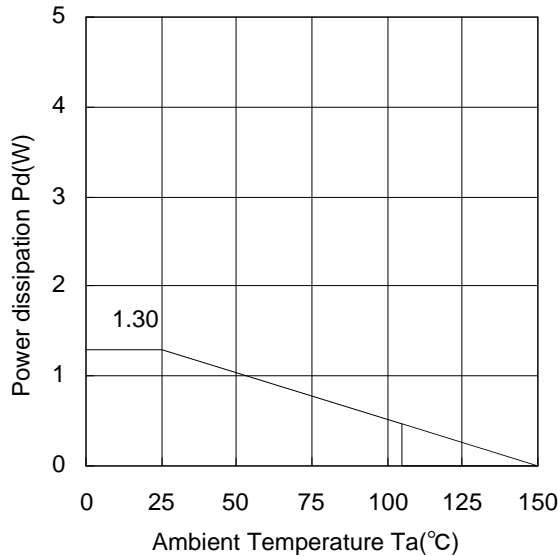
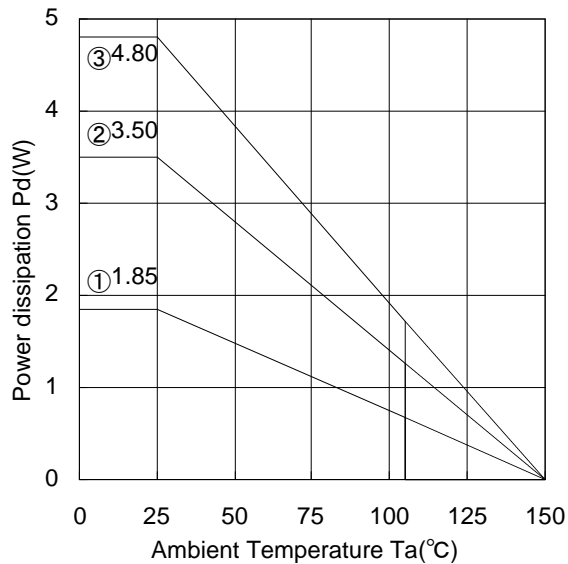
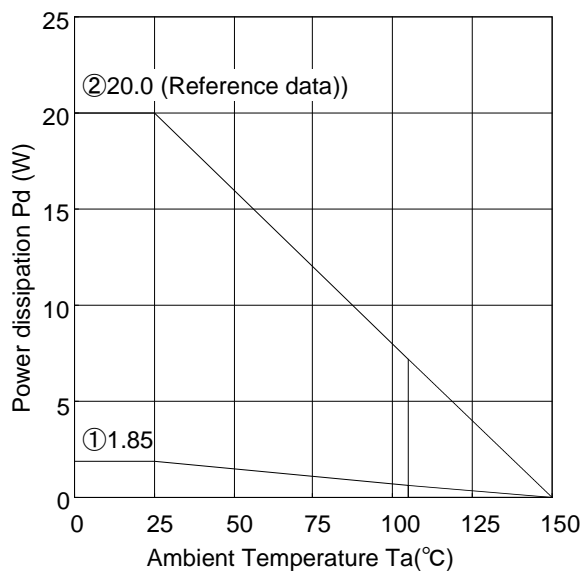

Figure 19.
Figure 20.
Figure 21.
When operating at temperature more than $T_a=25^{\circ}\text{C}$, please refer to the power dissipation characteristic curve shown in Figure 19 to Figure 21.
Figure 19 to Figure 21 show the acceptable power dissipation characteristic curves of TO252-5 package and TO220CP-V5 package. Even when the ambient temperature (T_a) is at normal temperature (25°C), the chip junction temperature (T_j) may be quite high so please operate the IC at temperatures less than the acceptable power dissipation.
The calculation method for power consumption $P_c(\text{W})$ is as follows : (Figure 20③ and Figure 21)
$$I_O \leq \frac{2.496 - 10 \times I_b}{5} \quad \left[\begin{array}{l} \text{Figure 20③: } \theta_{ja}=26.0^{\circ}\text{C/W} \rightarrow -38.4\text{mW}/^{\circ}\text{C} \\ 25^{\circ}\text{C}=4.80\text{W} \rightarrow 85^{\circ}\text{C}=2.496\text{W} \end{array} \right]$$
$$I_O \leq \frac{10.4 - 25 \times I_b}{20} \quad \left[\begin{array}{l} \text{Figure 21 (Aluminium heat dissipation board) } \theta_{ja}=6.3^{\circ}\text{C/W} \rightarrow -160\text{mW}/^{\circ}\text{C} \\ 25^{\circ}\text{C}=20\text{W} \rightarrow 85^{\circ}\text{C}=10.4\text{W} \end{array} \right]$$